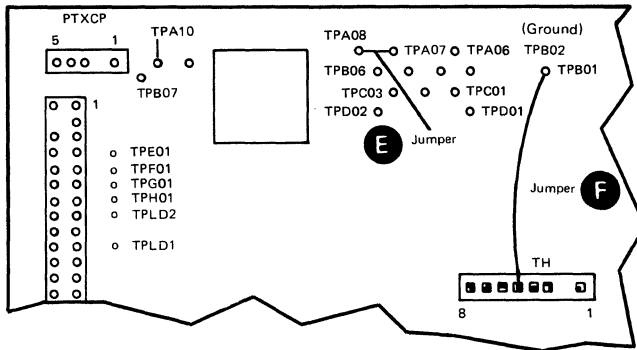

Figure E-27. Solenoid and Bail Service Check
E.3.3.1 Solenoid and Bail Service Check (Figure E-27)